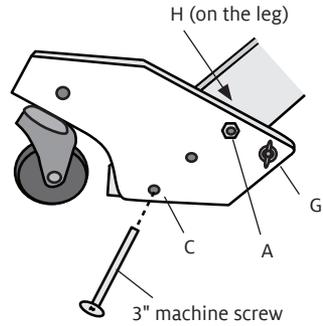

FIGURE 2
4. Attach the top of each of the four casters to the loom legs. Put a 2 1/4" carriage bolt through the hole (H) in the legs from the inside, then through the top hole (A) in the caster blocks. Tap the carriage bolt into the loom leg using a rubber mallet or hammer and a piece of scrap wood. Place a washer and a lock nut on the carriage bolt and tighten the lock nut enough to draw the head of the carriage bolt into the wood of the leg (figures 2 and 3). *Note: When installing the caster block on the inside right leg, depress the brake release pedal or undo the brake release cord from the pedal, to allow easier access to the hole (H).* Repeat for the other three caster blocks. If you detached the brake release cord from the pedal, reattach it.
5. Attach the bolt to hold the front of the metal support bar when the loom is folded. From the inside of the loom insert a 1 3/4" hex bolt through the hole (G) in the front caster block. Secure the hex bolt with a washer and a lock nut. Place a 1/4" wing nut on the bolt (figure 2). Repeat Step 5 for the other front caster block.